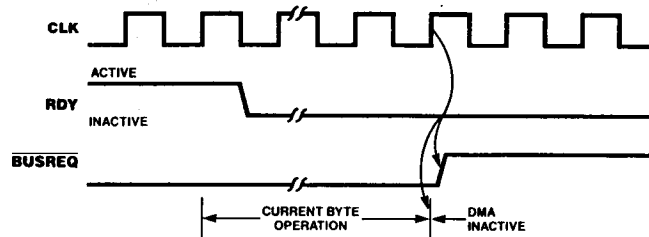

Figure 18. Bus Release When Not Ready
**Bus Release on Not Ready.** In Burst mode, when RDY goes inactive it causes  $\overline{\text{BUSREQ}}$  to go High on the next rising edge of CLK after the completion of its current byte operation (Figure 18). The action on  $\overline{\text{BUSREQ}}$  is thus somewhat delayed from action on the RDY line. The DMA always completes its current byte operation in an orderly fashion before releasing the bus.